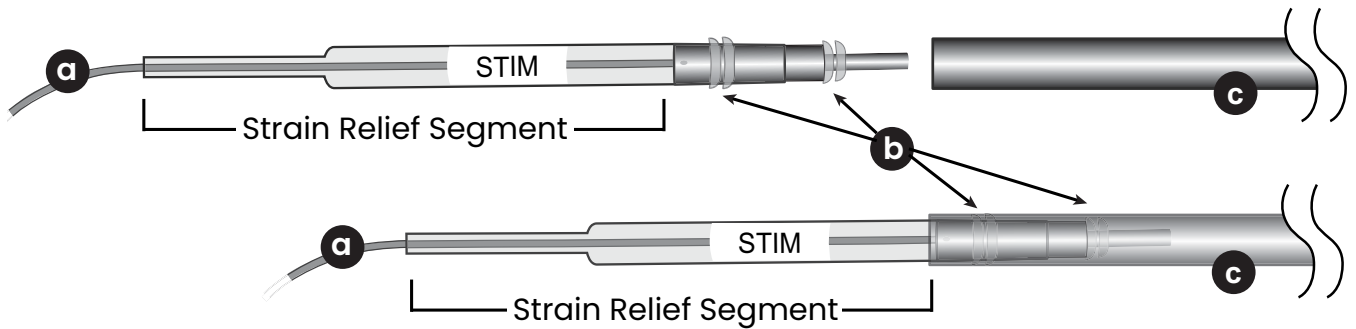

Figure 3. Setting the Stimulation Need
7. Insert the stimulation lead Figure 3 (a) into the tunneling tool by grasping the strain relief segment of the stimulation lead and insert the tip into the tunneling tool, making sure that both sets of seal rings Figure 3 (b) are inside of the tunneler Figure 3 (c).